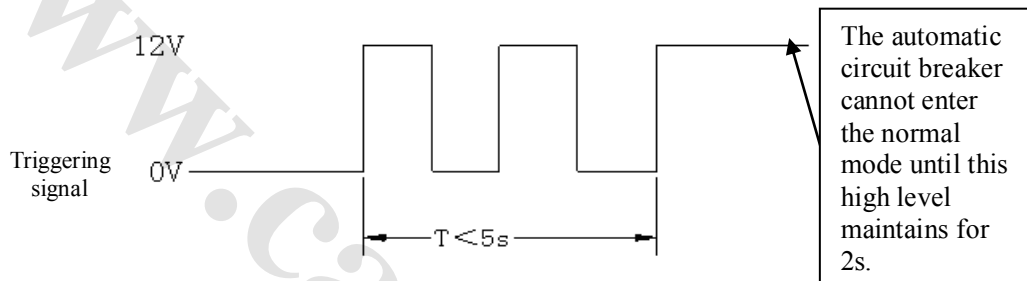

Figure 4
1.3 After taking method one or method two to enter the sleeping mode, with the automatic circuit breaker in the forced wakefulness mode, after the ignition switch is turned off (OFF position), that is, the voltage will drop to 0V from 12V, the automatic circuit breaker will also immediately enter the sleeping mode (see Figure 4).